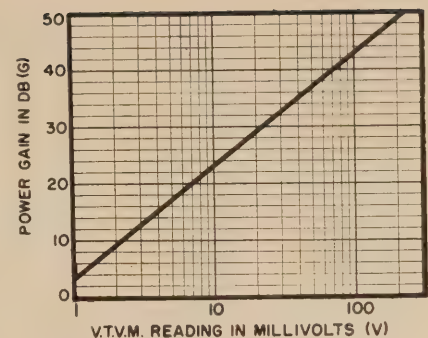

Fig. 9. Graph of Eqt. (6) used for obtaining equivalent power gain in db.
$R_o$  should be adjusted for the maximum v.t.v.m. peak reading, and Fig. 9 referred to for equivalent power gain in db.
The graph in Fig. 9 was made from Eqt. (6).